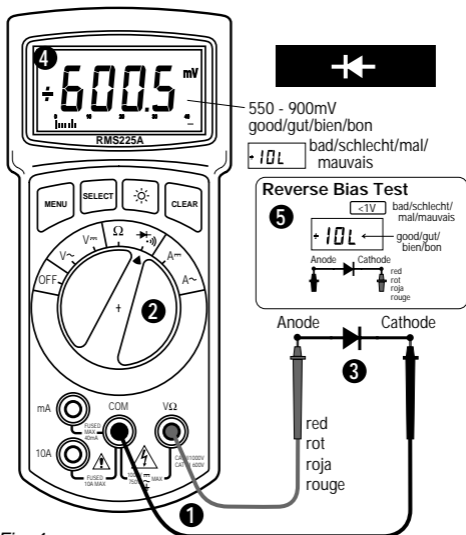

Fig. 4
## **DIODE AND CONTINUITY TEST (See Fig. 4)**
The diode test measures the voltage drop across a diode junction. ① Connect the test leads as shown in figure 4. ② Set the Function/range switch to  $\rightarrow \Omega$ . ③ Apply probe tip of red lead to the anode and of black lead to the cathode of the diode. ④ The meter's display indicates the forward voltage drop (approx. 0.6V for silicon diode or 0.4V for germanium diode). An open diode is indicated by "I OL". ⑤ Reverse test lead connections to the diode to perform a reverse bias test. "I OL" indicates a good diode. **Notes:** "I OL" for both reverse and forward bias tests indicates an open diode. A low voltage reading for both bias tests indicates a shorted diode. If the diode is shunted by a resistor of 1000 ohms or less, it must be removed from the circuit before taking the measurement. Bipolar transistor junctions may be tested in the same manner described above as emitter-base and base-collector junctions are diode junctions.